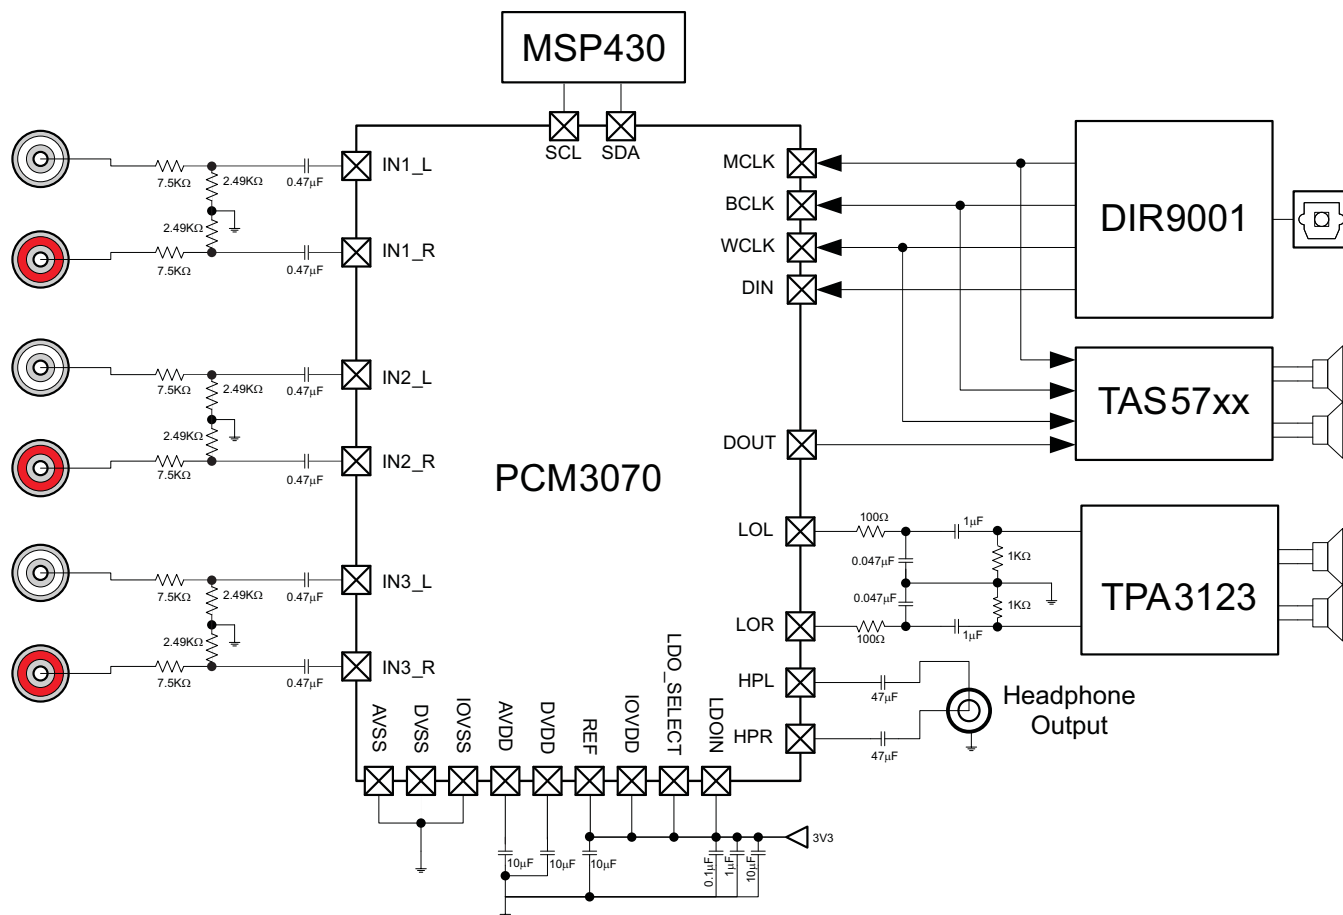

图 19. Typical Circuit Configuration
图 19 shows a typical circuit configuration for a system using the PCM3070.
Refer to 图 19 for recommendations on decoupling capacitors.
- The decoupling capacitors for the power supplies should be placed close to the device terminals. 图 19 shows the recommended decoupling capacitors for the PCM3070.